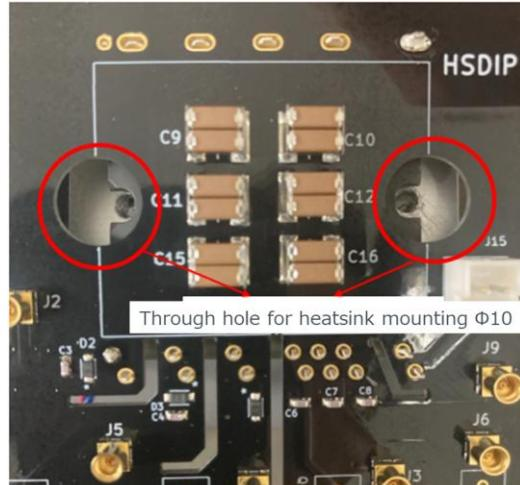

Figure 6-4. Alignment of a heat sink
Step (2): Put the evaluation board onto a heat sink with tapped holes and align them such that the tapped holes (M3) can be seen. Refer to Figure 6-4 "Alignment of a heat sink."